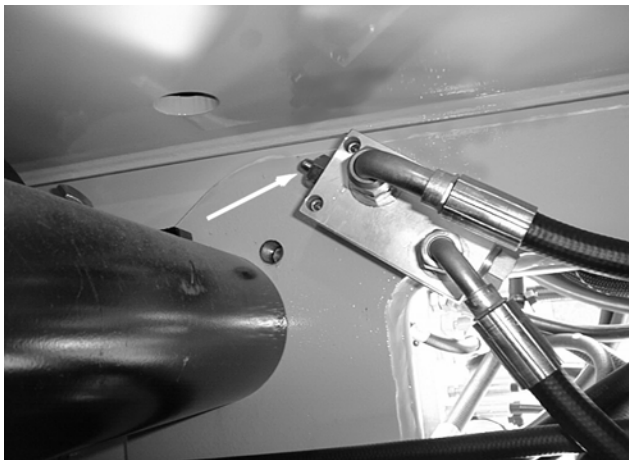

Figure 2-1. Tower Boom Vertical Limit Switch
- a. Place machine on level ground with the tower boom assembly in the stowed position. Identify the tower boom vertical limit switch adjacent to the tower lift cylinder at the bottom end (rear) of the tower base boom. Open the left side hood and perform a visual check that the plunger on the tower boom vertical limit switch is fully extended. The plunger is shown fully extended in Figure 2-1.